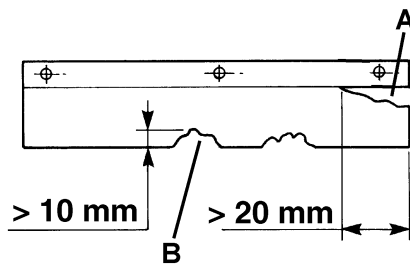

Figure 13
3. Check the side skirts (13 and 14) for integrity. Replace the skirts when they have cuts (A, Fig. 13) larger than 20 mm or cracks/tears (B) larger than 10 mm (for skirt replacement, refer to the Service Manual).
15. Replace the skirts when they have cuts (A, Fig. 13) larger than 20 mm or cracks/tears (B) larger than 10 mm (for skirt replacement, refer to the Service Manual).